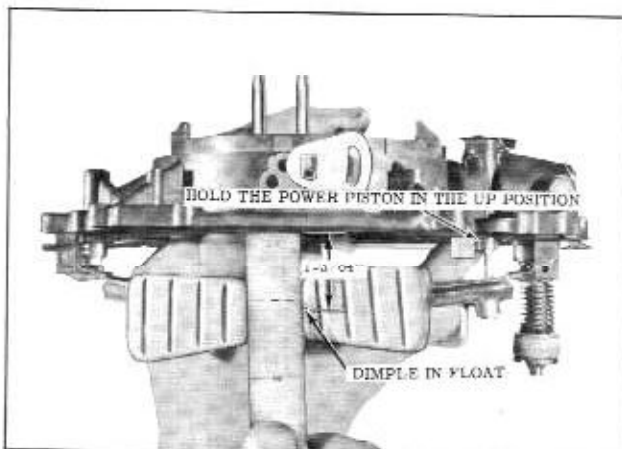

Fig. 8-109 Checking Vacuum Assist Spring Adjustment
1. Position the air horn as shown in Fig. 8-109,